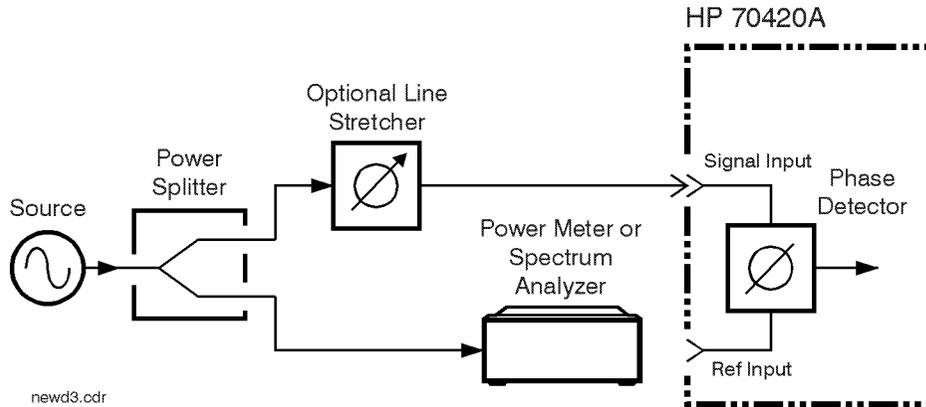

Figure 8-8 *Measuring Power at Phase Detector Reference Input Port*
5. If you are not certain that the power level at the Reference Input port is within the range shown in the preceding graph, measure the level using the setup shown in Figure 8-8 on page 8-12.